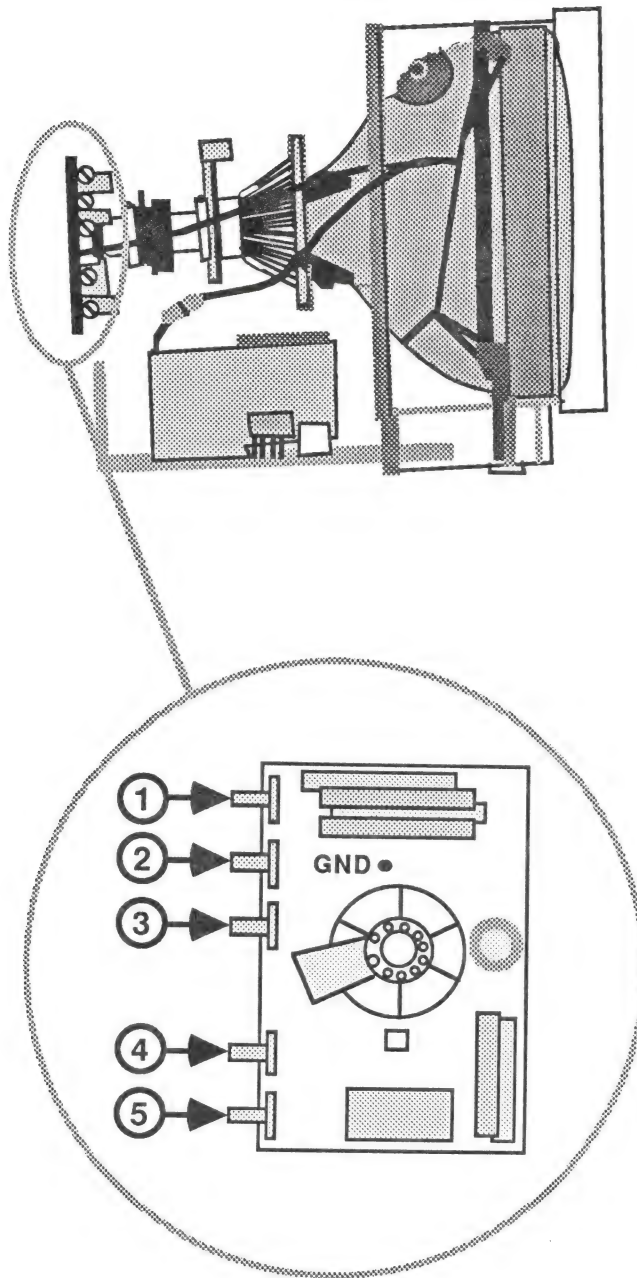

**FIGURE 8**
22. Adjust the **COLOR INTENSITY** control (Figure 8, #3) and the **CONTRAST** control (Figure 8, #1) for optimum color viewing.
23. Adjust the **TINT** control (Figure 8, #4) until the yellow color bar is at its yellowest hue.
9. Adjust the **CONTRAST** control (Figure 8, #1) to its full clockwise position.
10. Adjust the **BRIGHTNESS** control (Figure 8, #2) to its optimum viewing condition.
13. Adjust the **COLOR INTENSITY** control (Figure 8, #3) to its maximum counter-clockwise position.
14. Depress the **WHITE ONLY** switch on the front panel (Figure 8, #5).